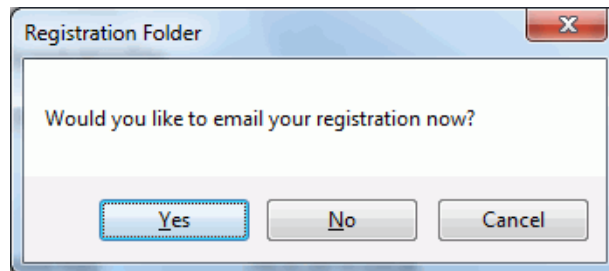

Figure 42 - Email Registration
3. Enter all required information, as marked by *, click  then  and click  and Figure 42 appears.